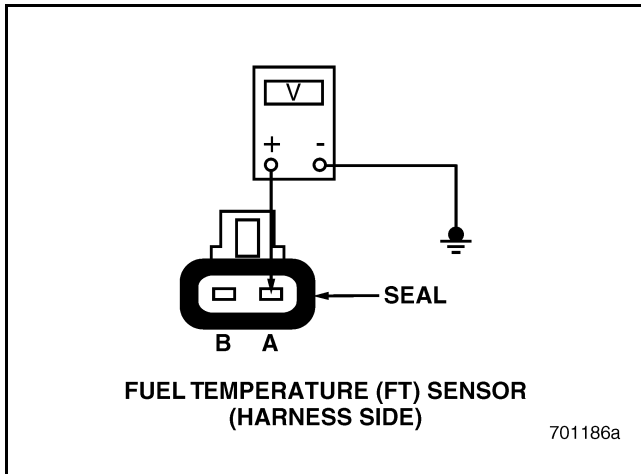

Figure 51
5. Measure the voltage between pin A of the FT Sensor harness connector and a good ground (see Figure 51).